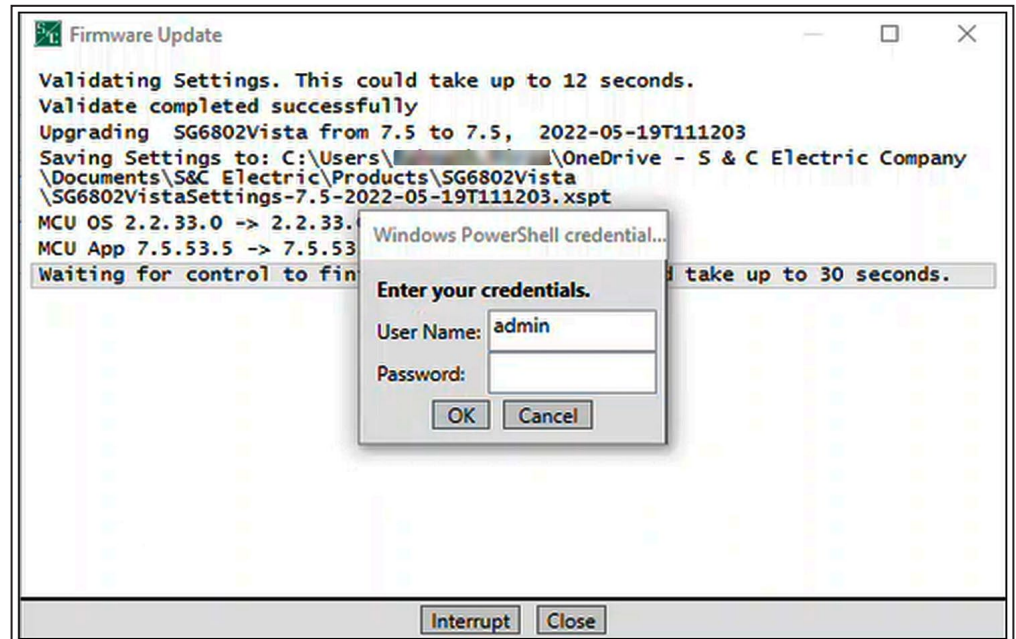

Figure 24. The Windows PowerShell Credential dialog box.
**STEP 12.** *If the Windows PowerShell Credential dialog box appears:* Enter the User Name and Password, and click on the **OK** button. Contact the Global Support and Monitoring Center at (888) 762-1100 if assistance is needed. See Figure 24.